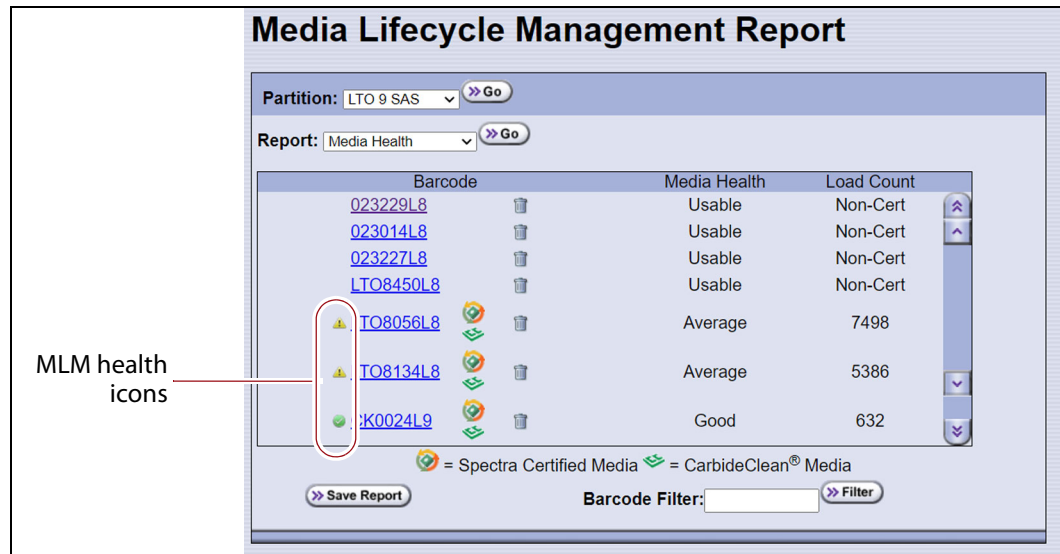

Figure 192 Use the health icons on the Media Lifecycle Management Report screen to quickly determine media health.
8. Click **Previous** to return to the main Media Lifecycle Management Report screen (Figure 192 on page 323).
Report Selected Data	Only the fields displayed in the report that you selected on the Media Lifecycle Management Report screen (Figure 192 on page 323). Note: The headings in the saved report reflect the fields displayed in the report you selected in the Media Lifecycle Management Report screen.